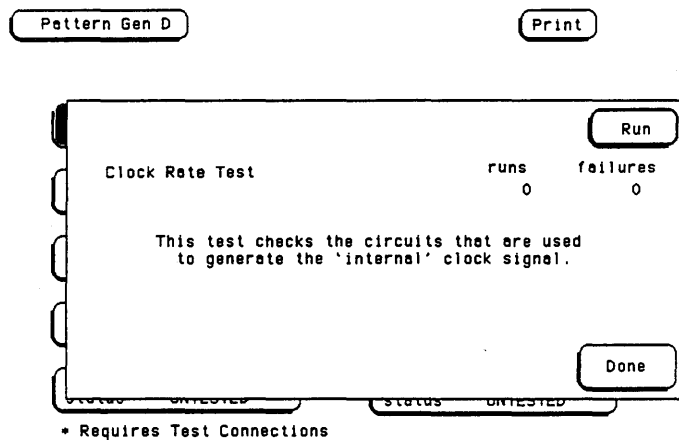

Figure 6-8. Clock Rate Test Run Screen
- g. An individual test run screen, see figure 6-8, will give the test name, a brief description of the test, number of test runs, and the number of test failures.